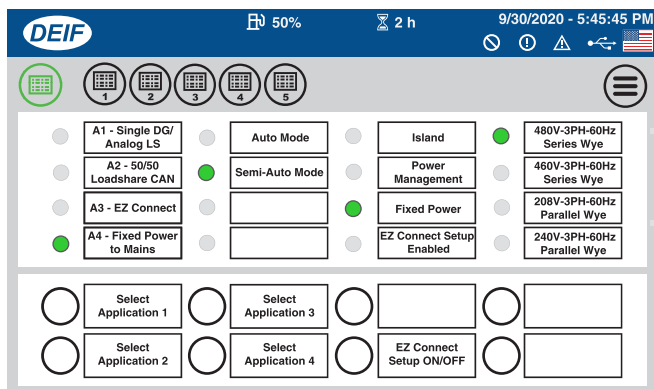

Figure 163. Main AOP Screen (Fixed Power)
- Repeat steps 1–3 to return to the **Main AOP screen** (Figure 163). Verify that the **Fixed Power status indicator is ON (GREEN)**.